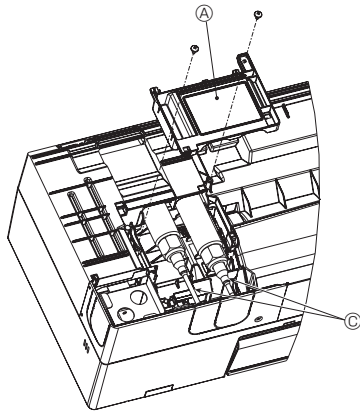

Fig. 3-16
- (4) Remove Box cover (A). (Fig. 3-16)
- (5) Loosen the nut on the L-shape piping side with two wrenches, and remove and disposal the piping (C).